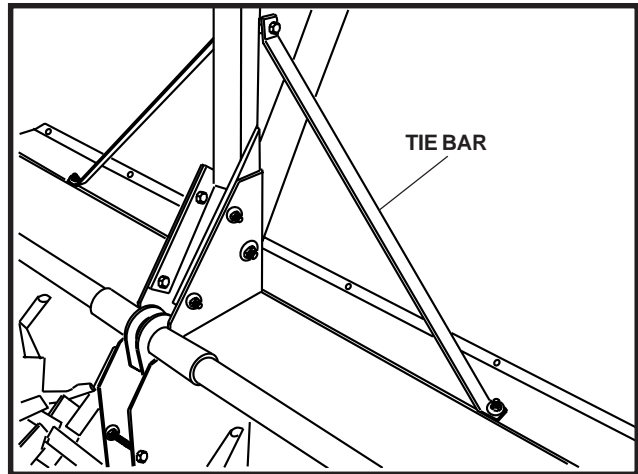

FIGURE 6
- Attach the tie bars to the aerator bed and to the tow bar as seen in Figure 6. (48" model only.)